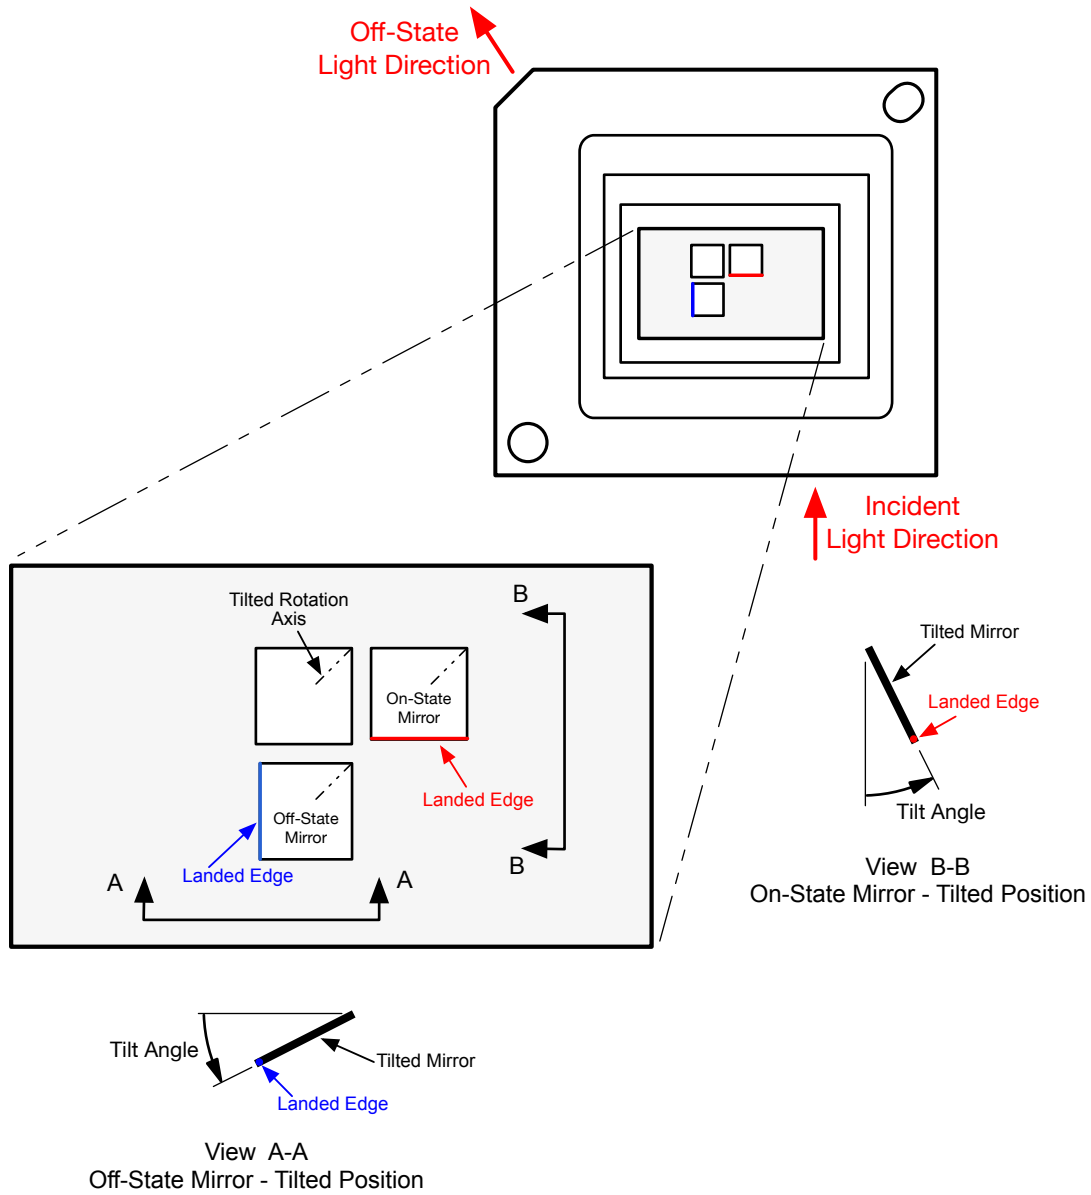

图 6-10. Micromirror Landed Orientation and Tilt
- (1) Measured relative to the plane formed by the overall micromirror array
- (2) Represents the variation that can occur between any two individual micromirrors, located on the same device or located on different devices.
- (3) For some applications, it is critical to account for the micromirror tilt angle variation in the overall system optical design. With some system optical designs, the micromirror tilt angle variation within a device may result in perceivable nonuniformities in the light field reflected from the micromirror array. With some system optical designs, the micromirror tilt angle variation between devices may result in colorimetry variations, system efficiency variations, system contrast variations, and optical power variations.
- (4) When the micromirror array is landed (not parked), the tilt direction of each individual micromirror is dictated by the binary contents of the CMOS memory cell associated with each individual micromirror. A binary value of 1 results in a micromirror landing in the ON State direction. A binary value of 0 results in a micromirror landing in the OFF State direction. See 图 6-10.
- (5) The time required for a micromirror to nominally transition from one landed state to the opposite landed state.
- (6) The minimum time between successive transitions of a micromirror.
- (7) An out-of-specification micromirror is defined as a micromirror that is unable to transition between the two landed states within the specified micromirror switching time.
- (8) Efficiency numbers assume 35-degree illumination angle, F/2.4 illumination and collection cones, uniform source spectrum, and uniform pupil illumination.